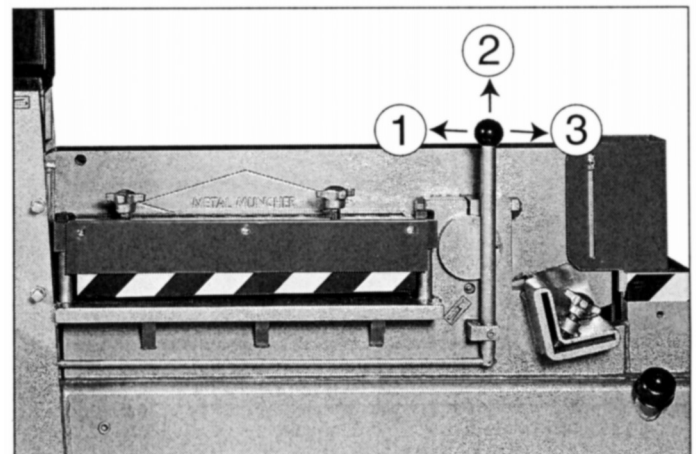

Figure 4
6. Remove plastic shipping plug in oil fill tube before mounting oil cap. (see figure 4)
The hand control is moved (as shown in Fig. 4) to raise or lower the blades at the shear stations and at the coper-notcher.